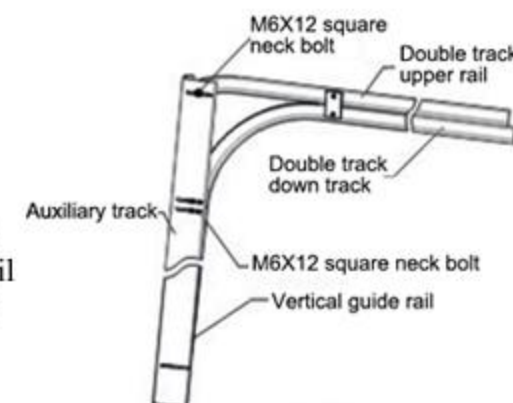

Figure 4-3
4.2 Low headroom installation method Horizontal guide rail installation (Figure 4-3)